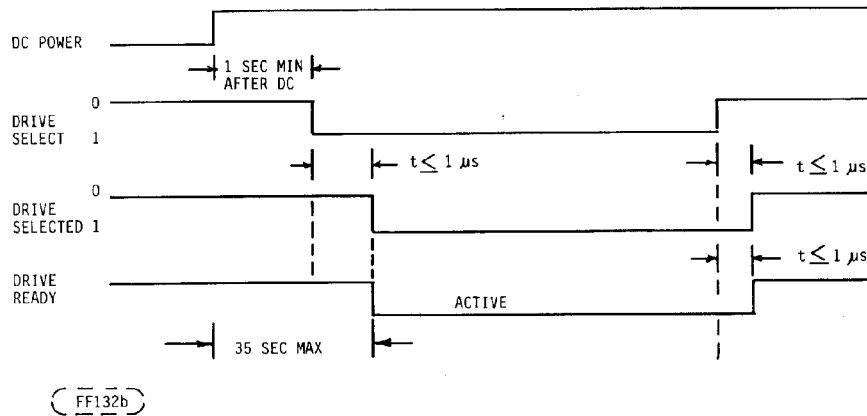

Figure 18. Power Turn On and Drive Selection
5. The drive should not be selected until 1 second after DC power is applied. The Drive Ready input will be valid within 500 ns after the drive is selected (Drive Selected true) and after the 35 second power on delay. (See Figure 18.)
7. The drive will activate the Data Cable Drive Selected signal within 1 μ s after receipt of Drive Select if the drive is selected. The drive will deactivate drive selected within 1 μ s after the Drive Select signal is deactivated. (See Figure 18.)
A Logic 1 on this line indicates that the Drive is powered on, the disks are rotating within the speed tolerance, and the Read/Write heads are over the recording zone of the media. This line is gated with Drive Select and will be valid within 1 μ s after the Drive is selected (see Figure 18). Drive Ready will be true (assuming the drive is selected) within 35 secs after DC power is applied to the drive. This signal is not deactivated during a normal seek operation or during a head change. If this signal is true and Seek Complete is true, and Write Fault is false, the drive is ready to seek, read or write.
This line when active (logic 1) indicates that the drive is programmed as drive X (X = 1,2,3,4) and that the Drive Select X line is activated. This line is in the radial Data Cable. The host may therefore verify that a drive was selected plus verify that one and only one drive is selected. Drive Selected will be activated within 1 us from the leading edge of the host Drive Select X line. Drive Selected will be deactivated within 1 μ s from the trailing edge of the host Drive Select X line. (See Figure 18.)